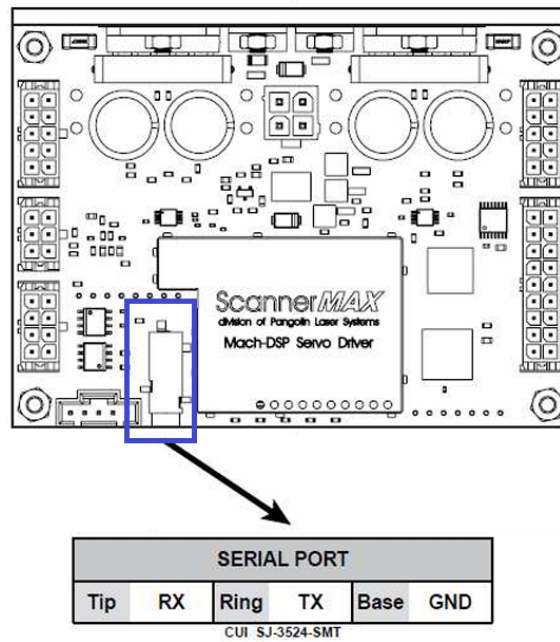

Figure 2: Match-DSP serial port
1. Connect your Match DSP controller to the computer using the serial port (Figure 2.)